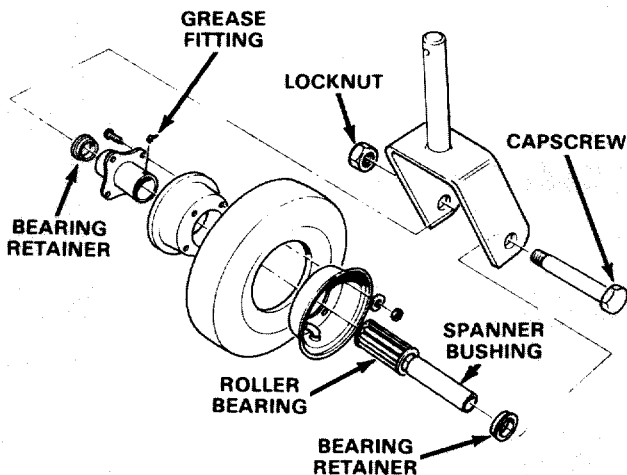

Figure 10
1. Remove locknut from capscREW holding castor wheel assembly between castor fork (Fig. 10). Grasp castor wheel and slide capscREW out of fork.
Note: Account for the two bearing retainers (Fig. 10).
2. Tip wheel to the side and allow roller bearing and spanner bushing to fall out (Fig. 10).
6. Pump more grease through grease fitting on wheel (Fig. 10) until bearing is greased thoroughly.